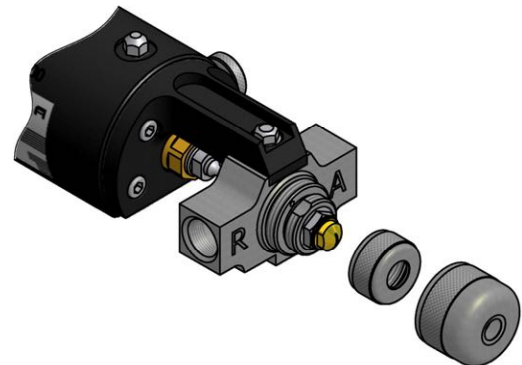

Figure. 9
9. Remove the diffuser and the PCD nut, turn them anti-clockwise with your hand and clean them with gun-cleaning solvent (see **Figure. 9**).